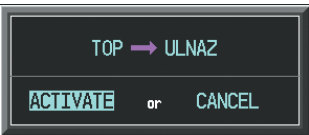

Figure 5-120 Confirm Active Leg
- c) Press the **ACT LEG** Softkey. The confirmation window is now displayed as in Figure 5-120. Note the TOP to ULNAZ leg is actually part of V4.